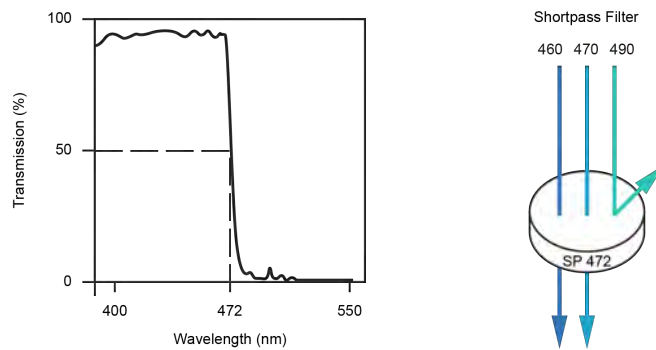

Figure A-6 472 nm Shortpass Filter
Shortpass filters (SP) pass light with a shorter wavelength than the cutoff wavelength. For example, a 472 nm shortpass filter allows wavelengths shorter than 472 nm to pass through it and either absorbs or reflects wavelengths longer than 472 nm (Figure A-6).